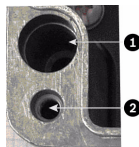

Figure 4.4 Holes for screws for mounting enclosure mounting; holes for screws for enclosure lid
2. Locate the four (4) mounting holes of the power supply enclosure. (*Figure 4.4* displays one of the holes.) See the dimensional drawing in the appendix for hole locations. The dimensions shown are for the mounting holes only. The other 4 holes shown are for securing the lid and are for reference only.
3. Drill four (4) holes in the mounting surface for the mounting anchors appropriate for M6 screws (not supplied).
4. Loosen the four (4) captive Phillips head screws on the top of the lid of the power supply enclosure (item 2, *Figure 4.4*). Lift the lid and set it upside down next to the enclosure.
5. Secure the enclosure to the mounting surface using four (4) M6 stainless steel screws and washers (not supplied), which fit through the large holes in the enclosure, as shown in *Figure 4.4*.